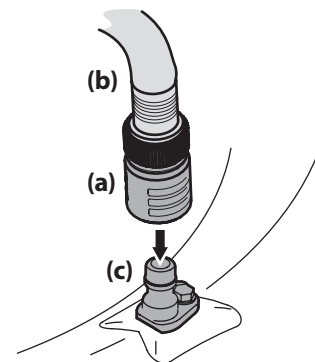

Figure 4-3
- Thread the hose coupler (a) (packaged with the Operator's Manual) onto the end of your garden hose (b). See Figure 4-3.
- Attach the hose coupler (a) to the water port (b) on your deck's surface. See Figure 4-3.
- Turn the water OFF and detach the hose coupler (a) from the water port (c) on your deck's surface. See Figure 4-3.